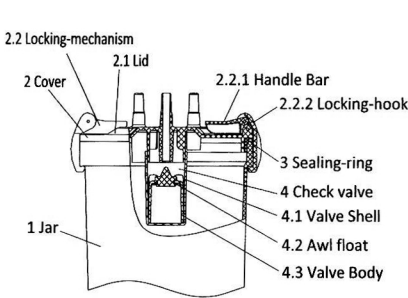

Figure 1: Configurations
Configuration of the suction jar is shown on Figure 1. The suction jar is composed mainly of the jar (1), cover (2), and sealing-ring (3), and check valve (4). The cover (2) includes the lid (2.1) and locking-mechanism (2.2). The locking-mechanism has two part including handle bar (2.2.1) and locking-hooks (2.2.2). The check valve (4) includes a valve shell (4.1), an awl float (4.2), and a valve body (4.3), all of which can be disassembled individually. The jar (1) and the lid (2.1) enclose the sealing-ring (3) and make a no-leak seal. The locking-mechanism (2.2) secures the jar (1) and cover (2) by locking them together. The awl float (4.2) prevents the substance from surpassing the maximum allowed filling level by blocking the entrance of the vacuum.
After sterilizing, use Figure 1 to assemble the parts back to one piece. Put the suction jar into a clean bag, seal it, and store it in a dry, well ventilated area.